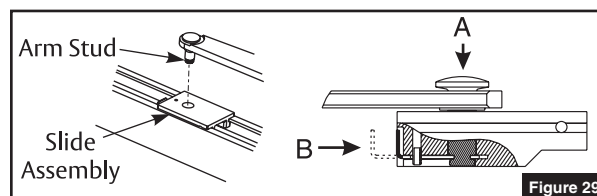

Figure 29
5. Insert stud on arm into slider in track by pressing clip on backside of slider onto stud. (Figure 29)